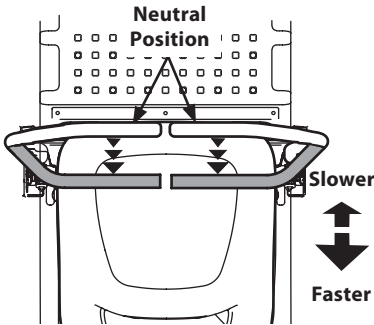

Figure 24
1. Slowly and evenly move both lapbar drive control levers rearward. The tractor will start to move in the reverse direction (Figure 24).